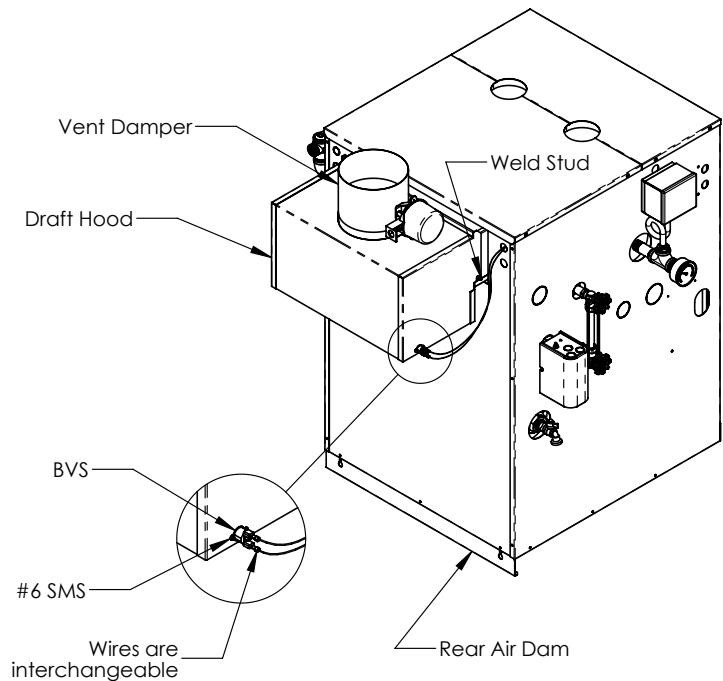

Figure 6-1: Vent Damper, Rear Air Dam and BVS Installation Diagram
- B. Mount the vent damper assembly onto diverter. See damper manufacturer instructions for more information. Do not modify either diverter or vent damper. See Figure 6-1.
Hang air dam on screws located at back of boiler. See Figure 6-1 for location.
13. Install Blocked Vent Switch (BVS). See Figure 6-1.